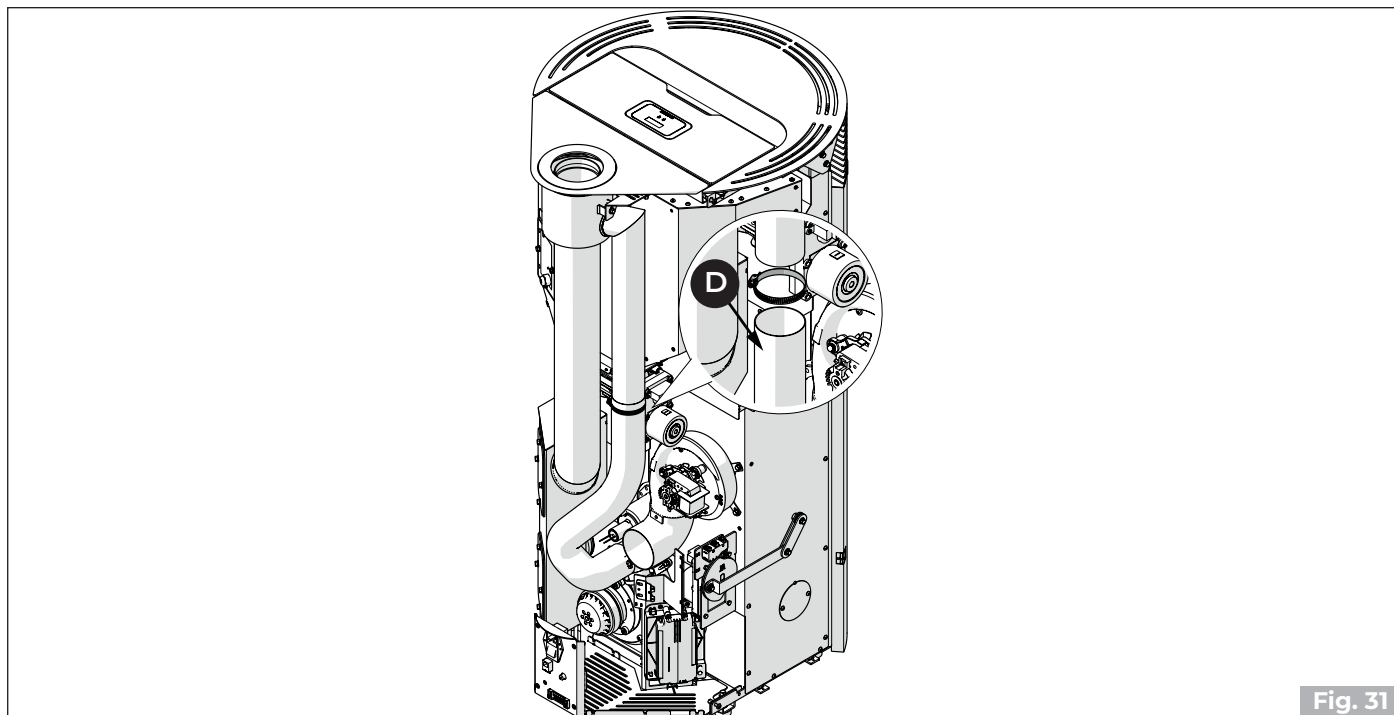

Fig. 31
- Disconnect the combustion air hose (**D**) in the upper part ("Fig. 31").